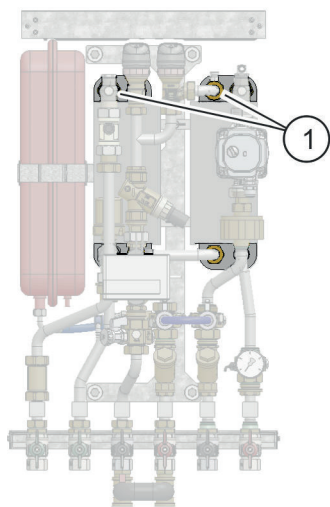

Fig. 40: Loosening the pipe fasteners
3. ➔ Loosen all the pipe fasteners (Fig. 40/1) of the pipes to the heat exchanger to be replaced.
6. ➔ To bolt the new heat exchanger in place, tighten the 4 bolted connections (Fig. 40/1).